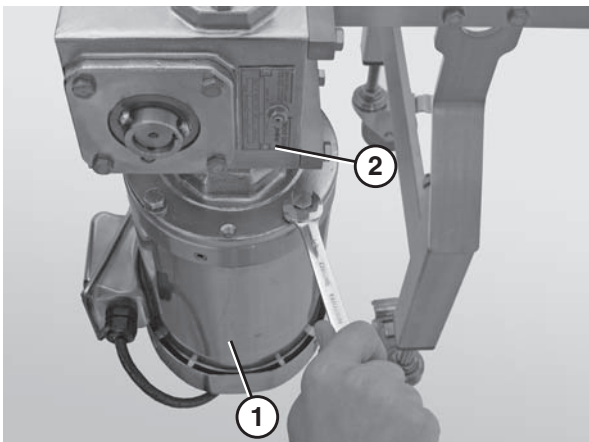

Figure 17
4. Attach the motor (Figure 17, item 1) to the gear reducer (Figure 17, item 2).